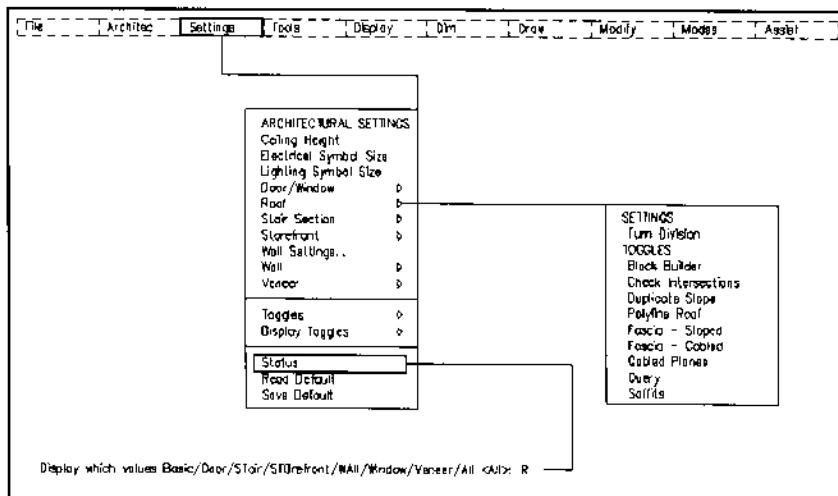

Figure 2.
1. Roof settings and toggles can be changed from the Settings pull-down menu. Selecting Roof opens a submenu as shown in Figure 2 displaying the same commands that are available from the Roof Status display.